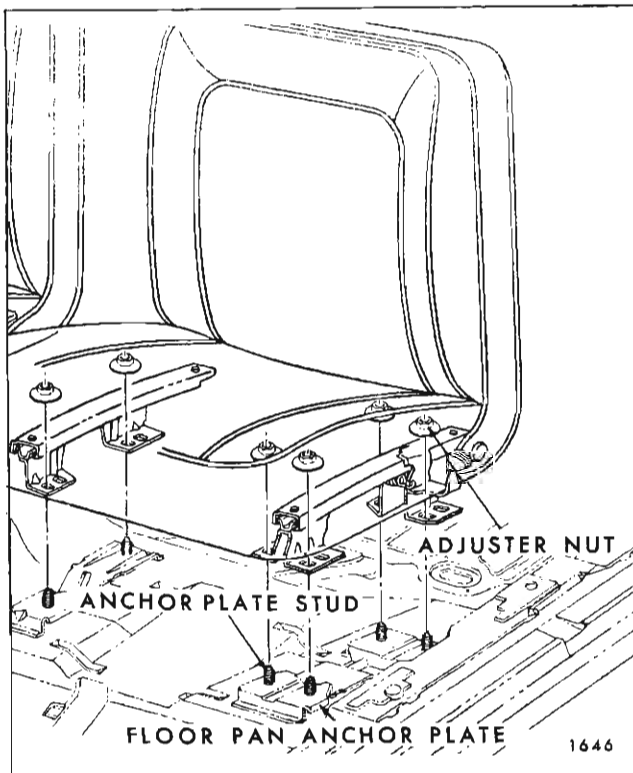

Fig. 1H16—Bucket Seat Removal
5. At front of seat, remove adjuster-to-floor pan attaching nuts (Fig. 1H16).